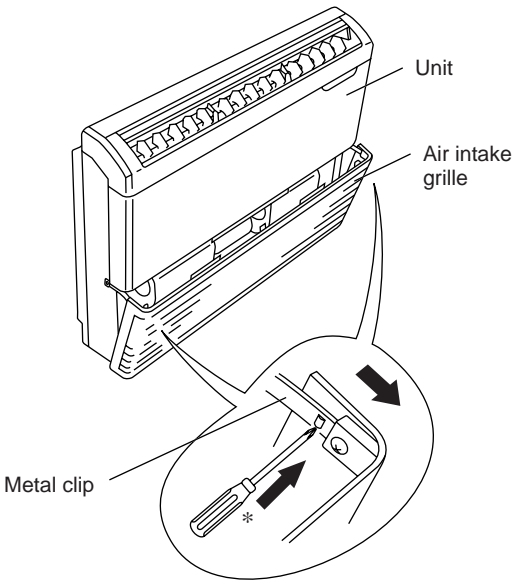

Fig.2
- (2) Remove the metal clips connecting the unit and the grille. First, with a screwdriver, loosen the \* marked screw a little at the right side clip (DO NOT loosen it too much, otherwise, the screw and small metal parts will fall off inside.), then press on the stopper and pull off. (Fig. 2)
- (3) Do the same procedure for the left metal clip.
- (4) Unlatch the 2 tabs on the lower part of the grille to take it off completely.